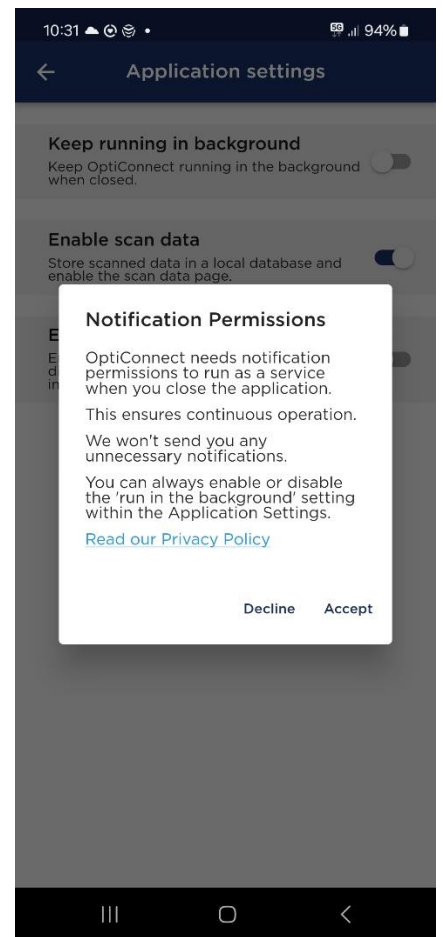

Figure 4-3: The Notification Permissions dialog when enabling *Keep running in background* (Android only).
**Notification Permissions:** For this functionality to work on Android, OptiConnect requires notification permissions (see Figure 4-3). These permissions enable the application to run as a *foreground service*, which
3. When prompted, grant the necessary notification permissions (see Figure 4-3).